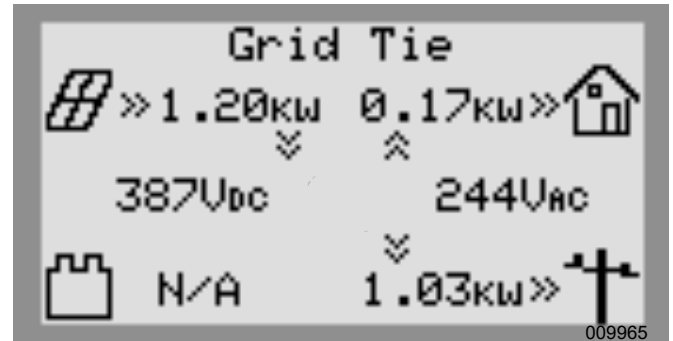

Figure 3-3. Selecting Operational Modes (1 of 4)
1. See Figure 3-3. While viewing the home screen press the center button.